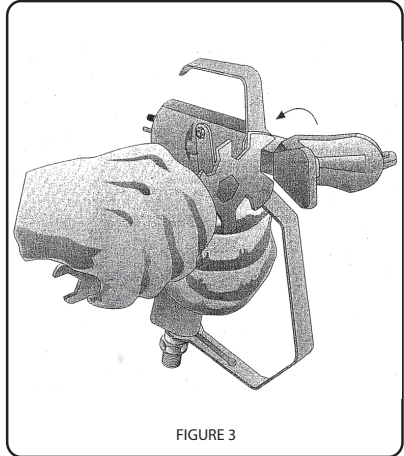

FIGURE 3
- 2 Loosen the tip support nut (figure 3). Turn the tip guard and place the groove in the horizontal position in order to obtain a vertical fan.